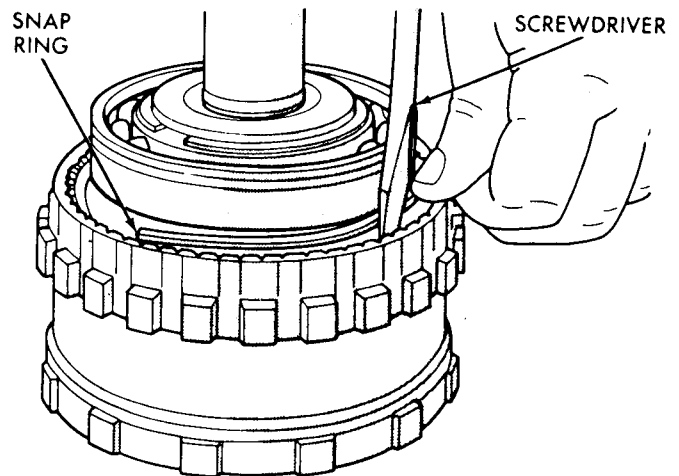

Fig. 1—Install Snap Ring
(1) To assemble overdrive unit, align mating marks, and insert shaft through the back of the annulus and secure it with the snap ring (Fig. 1).